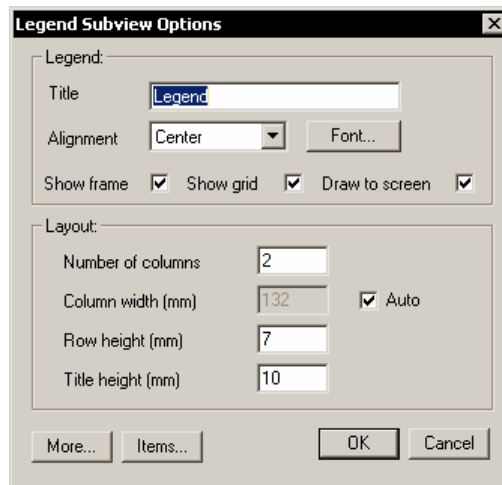

Figure 3.31: Legend Sub-view Options Dialog
10. Configure the dialog box as shown in Figure 3.31 above.